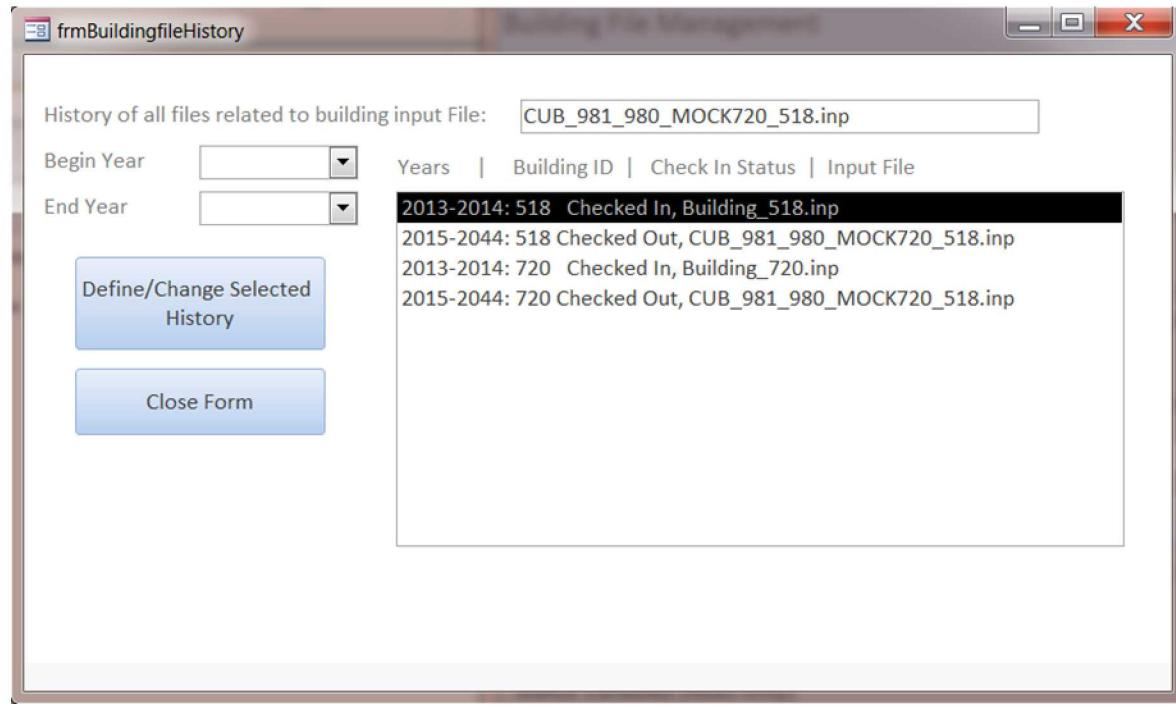

Figure 33. Managing building file time histories
3. Manage the building file ID time history by pressing the “Manage Building Time History” button. A form appears which allows the user to change the time history of which years apply to a given building file as seen in Figure 33. This is accomplished by clicking on an entry in the list box, selecting begin and end years, and then pressing “Define/Change Selected History.”